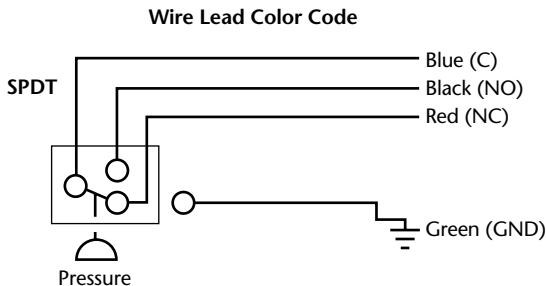

Figure 1 – Model SG6541 Wiring Diagram Schematic
Electrical connections are free leads; 18 gauge, 18 in. with ground wire and ¾ in. NPT female conduit connection (Fig.4 see pg.10). The wiring is clearly marked: Black-normally opened (NO), Red-normally closed (NC), Blue-common (C) and Green-ground (GND) (Fig. 1 below).